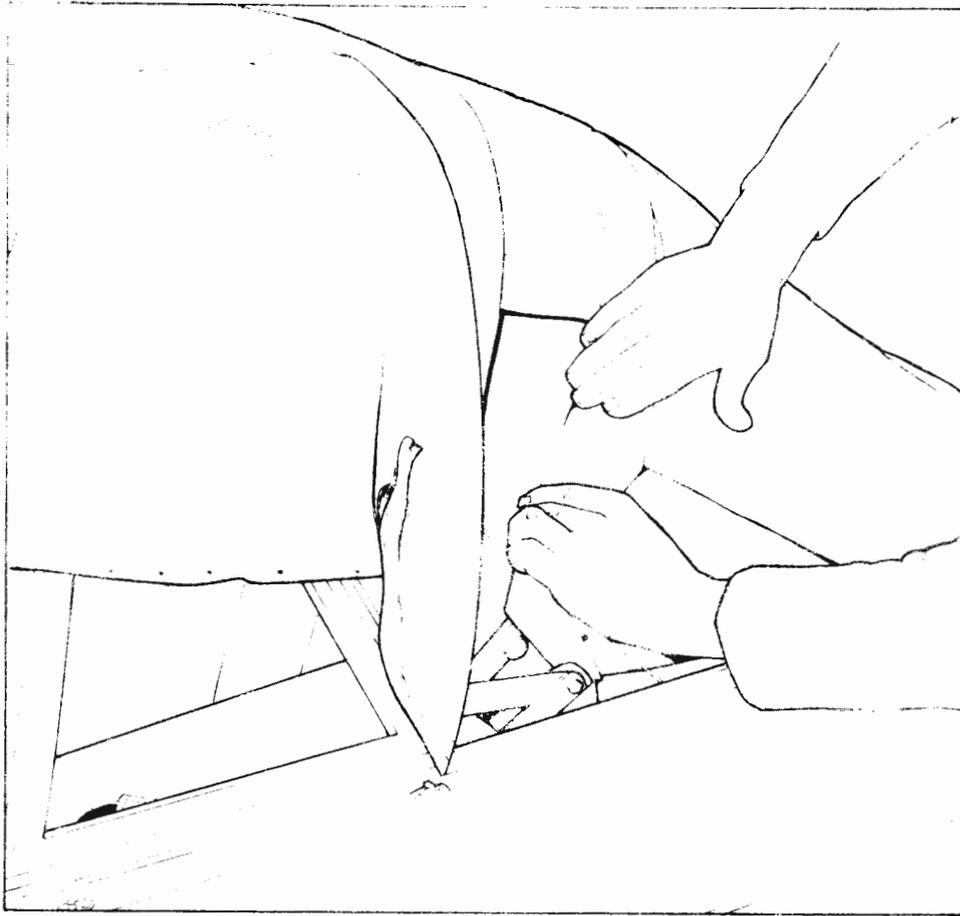

Fig. P12B
10. Blend out the corners on the rear bow with tapered edge foam strips. Glue a length of wide foam along each corner and blend out the lower edge of the bow with a length of narrow foam on each side. See fig. P12B.